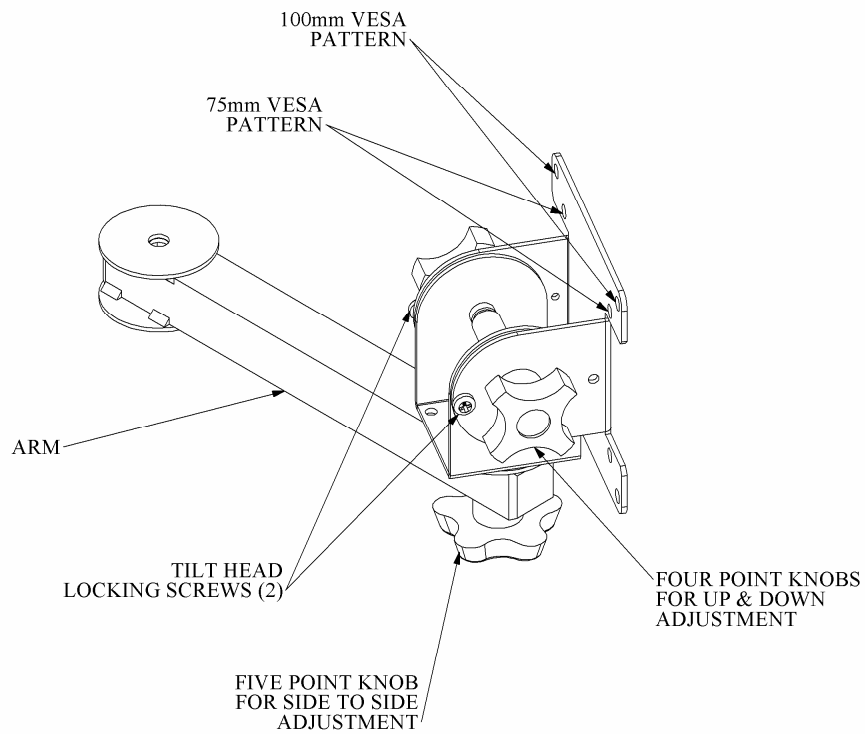

Figure 2 - VESA pan and tilt head on an 8" arm
2. Slightly loosen the large five point knob below the end of the arm just enough so that the pan and tilt head or *UPMT* will turn (See Figure 2).
2. Slightly loosen both of the four point knobs on both sides of the tilt head just enough so that the monitor can be moved up and down slightly (See Figure 2).
2. Tighten the three locking knobs as firmly as possible using only your hands (See Figure 2).
1. Support the entire weight of the screen. Doing one at a time, carefully loosen the locking screws until only three threads of the end of the screw shaft can be seen protruding through the metal next to the silicone anti-slip washer (See Figure 2).